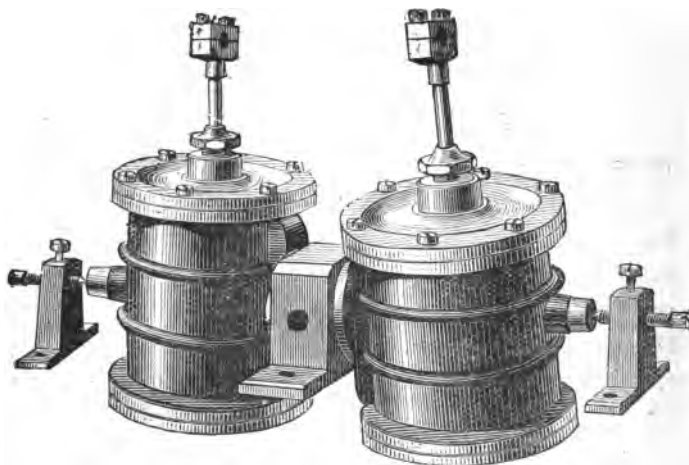

FIG. 44.
**T**HE action of oscillating cylinders has been described, but before giving the details of an engine of this type it may be well to show this form of cylinder. A single-action oscillating cylinder is shown at Fig. 43. The action can be understood by reference to the description of the toy engine shown at Figs. 12 and 13. A pair of double-acting oscillating cylinders are shown at Fig. 44. These cylinders have their